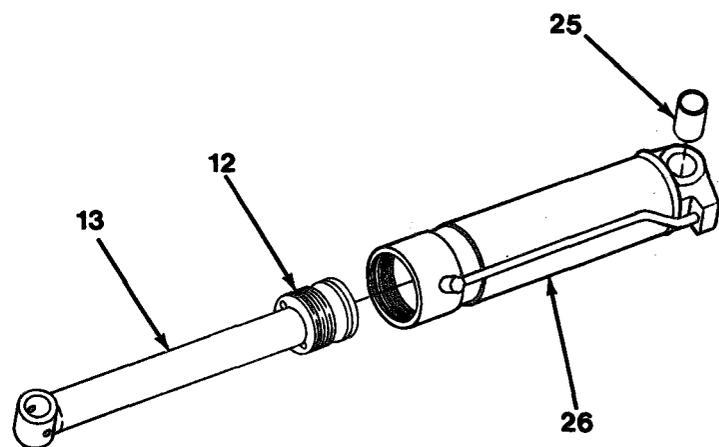

Figure 13-4
6. Install assembled rod (13) in cylinder barrel (26) and secure gland (12, Figure 13-4).